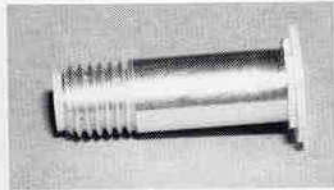

Fig. 26
□ **Figs. 24, 25 & 26** In bag #7-2 you will find the #7531 plastic servo saver parts on a molded tree (labeled in fig. 24). In the same bag you will find the #7258 aluminum servo saver tube. Remove the two servo tube bushings from the plastic parts tree, and install them in the aluminum tube as shown. **Note:** A complete replacement set of plastic servo saver parts is #7531. Fig. 26 shows the servo saver tube with the bushings installed.